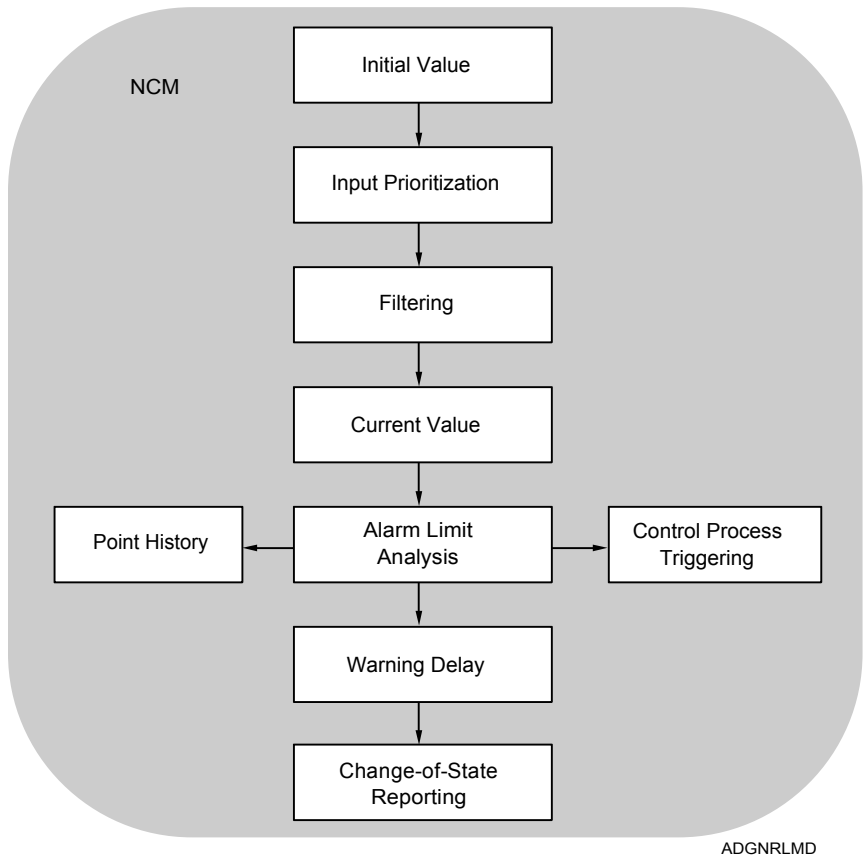

Figure 5: AD General Model
Figure 5 shows the general model of how the AD object operates. For more information, see the *Metasys Network Technical Manual, Software Data Sheets, Analog Data (AD) Technical Bulletin*.